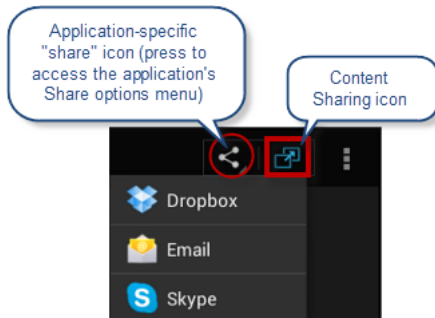

FIG. 145 Application "Share" icon, and Content Sharing icon (as displayed in an Image View page)
- Some applications provide their own "sharing" functions, which are not necessarily the same as the Content Sharing feature used to share with Enzo units. For example, at the top of the Image View page, there is an application-specific "Share" icon. When pressed, this icon presents a menu to select another application to use for sharing the file (FIG. 145). Note that *Content Sharing* is not available via this menu.
- Some applications may also present the Content Sharing icon in multiple places. Anywhere that the Content Sharing icon is presented, it can be pressed to invoke Content Sharing with an Enzo. The example in FIG. 145 shows that the Content Sharing icon is displayed at the top of the window next to the application's "Share" icon. Content Sharing can be invoked either via this icon or the Content Sharing icon presented in the G5 Menu Bar at the bottom of the window.